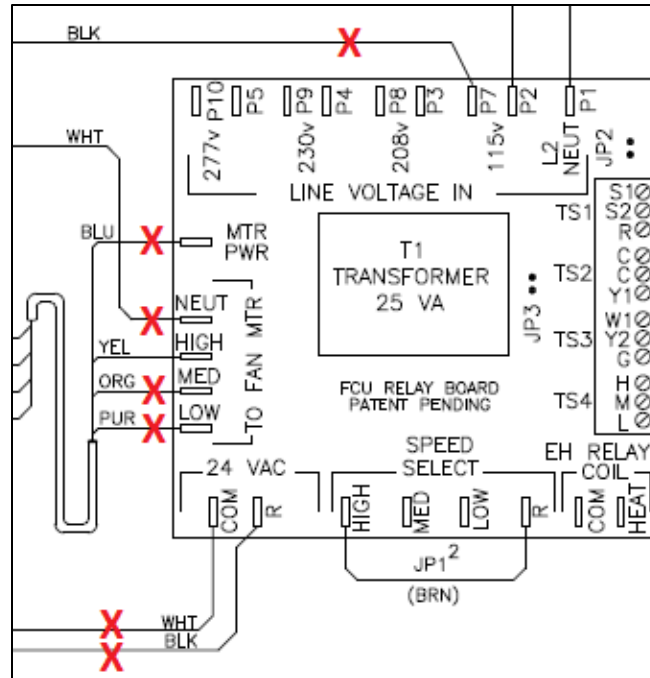

Figure 6 – Removing EC motor wires
b. EC motors (see Figure 6)
- v. Remove BLACK wire from “LINE VOLTAGE IN” portion of FCRB (NOTE: for dual motor units ONLY, there will be two wires connected. Remove butterfly/Y connector and remove both wires from connector). Exact location of wire will be determined by the unit’s voltage (115V shown in Figure 6):